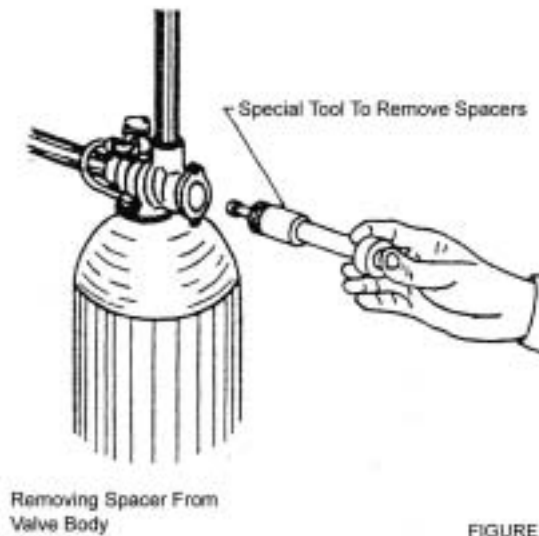

FIGURE 3
8. Insert the pin end of the spacer tool into the valve body with the pins retracted (button pulled back). Push the tool tight against the spacer and push the button in, (see Fig. 3). When the button is pushed in, the pins are pushed out to engage the  $\frac{1}{4}$  dia. Holes in the spacer. Remove the tool from the valve body. The spacer will be on the end. Pull the center button back, the pins will be retracted and the spacer can be removed from the spacer tool.